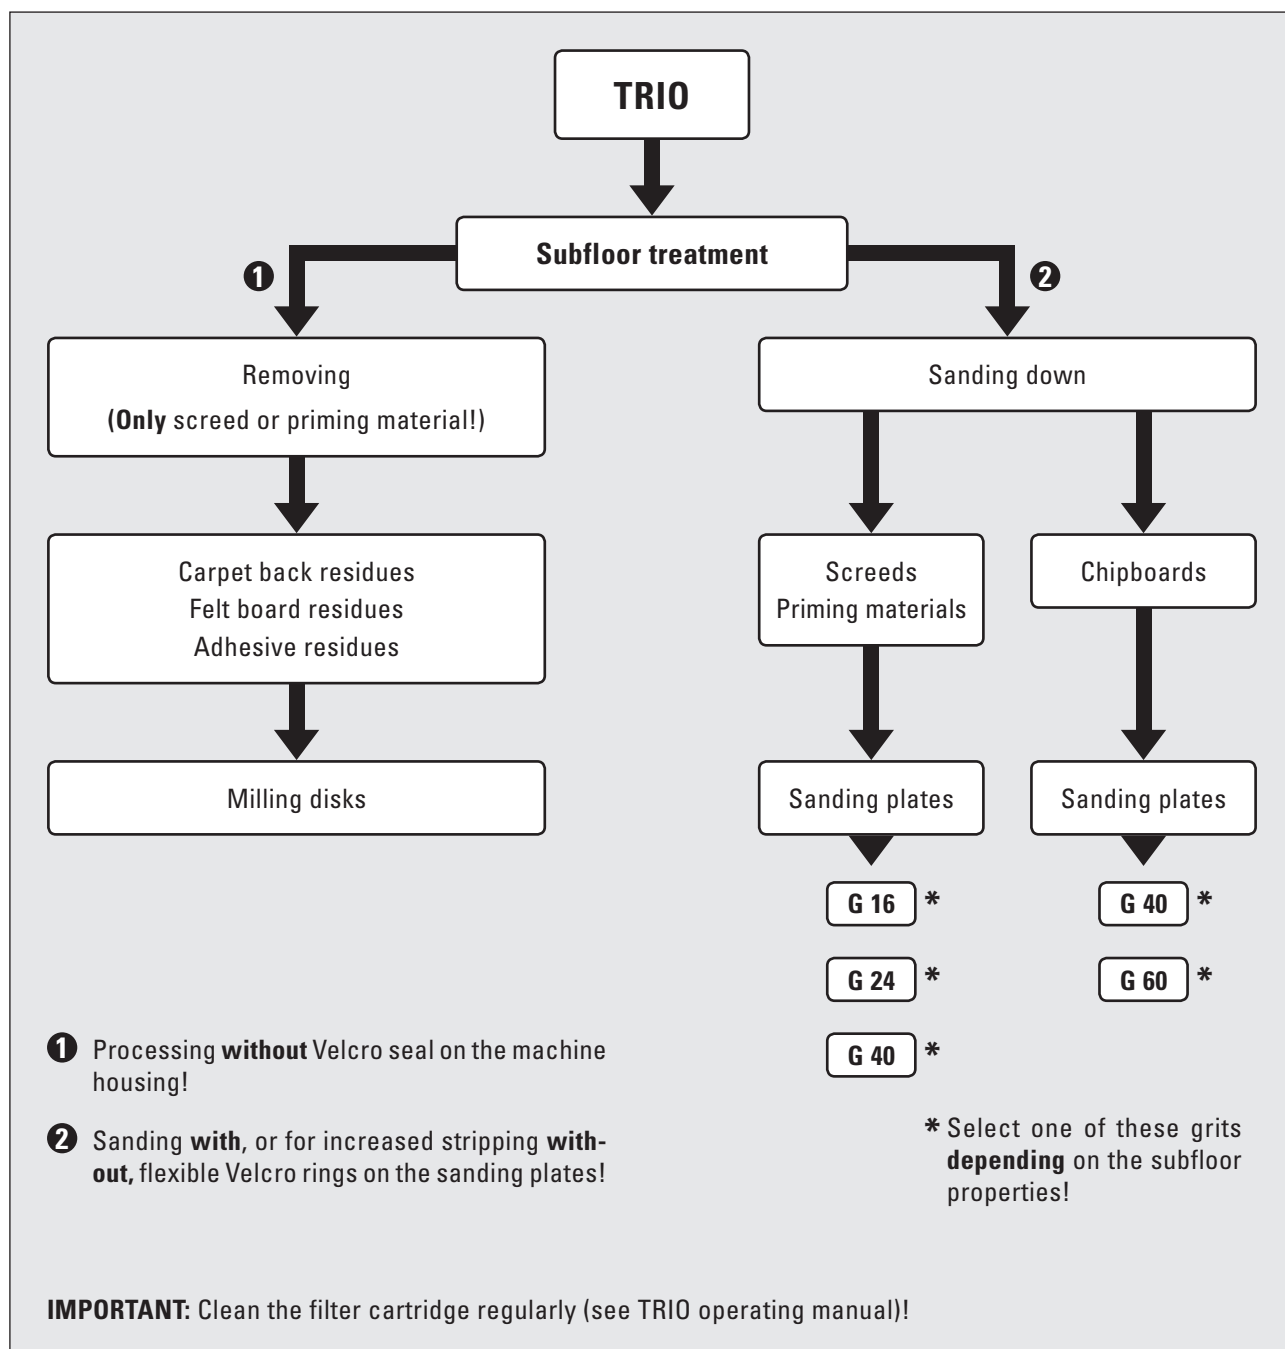

Fig. 1 Processing plan of the **TRIO** three-disk sanding machine for subfloor treatment.
- In the case of screeds with sinter layers, this layer has to be removed by sanding with the TRIO (Fig. 1) or the SINGLE (Fig. 2). This makes it possible to achieve a good bond between the wood, adhesive and screed.